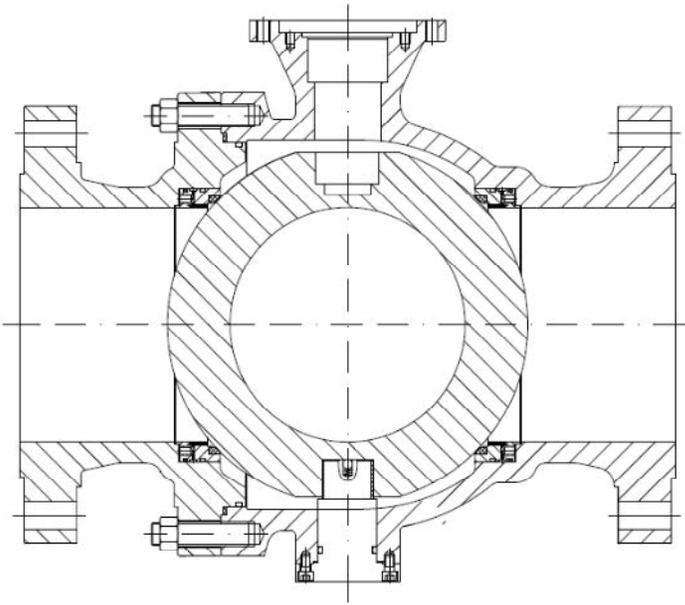

Figure 4
- 6.2 After the valve is fully closed, remove valve actuating parts and sealing parts, like actuator (12), top-mounted flange, stem (9), packing and packing case, and lay them out in order on the workbench to prevent the loss of parts, see Figure 4